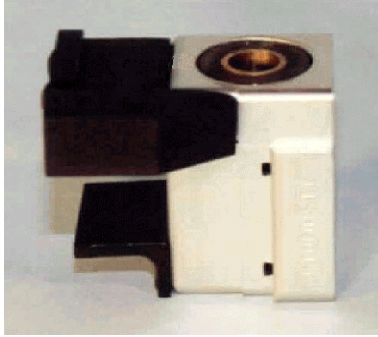

Figure 8.11- Inner stop bumper assembled to shoulder block
9. Attach the Shoulder Inner Stop Bumper (T1SHM024) and the Inner-Stop End Plate (T1SHM012) to the top set of mounting holes on the right shoulder block using two #10-32 x 1.375" BHSCS {1/8}. This completes the assembly for the right shoulder block, as shown in **Figure 8.11**.